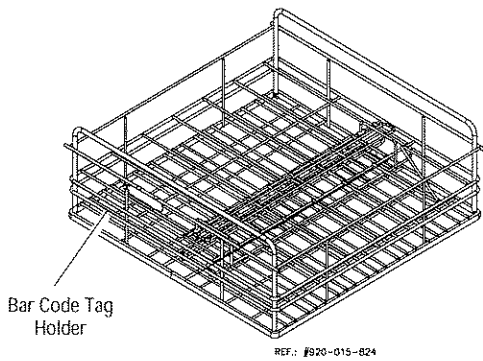

Figure 3-13. Multi-Purpose Basin Rack
- **Multi-Purpose Basin Rack** (see Figure 3-13) is designed to hold up to 26 basins of various shapes (round, square, rectangle) and sizes, as well as kidney bowls.